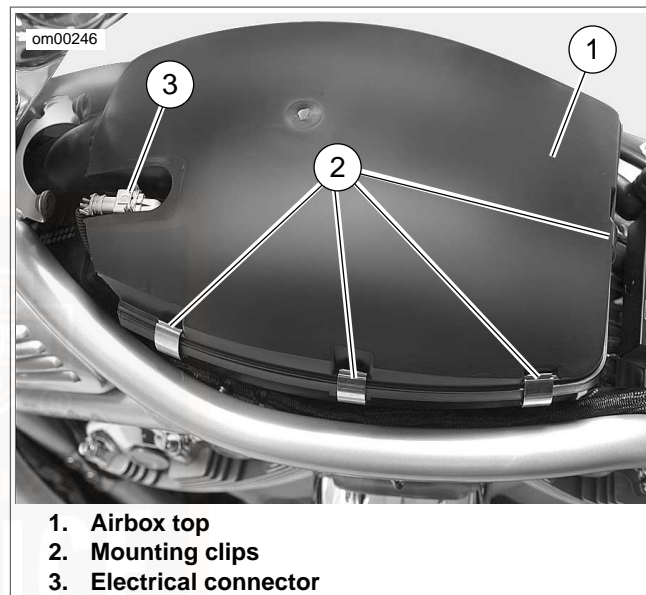

Figure 42. Airbox Top: VRSC Models
4. See Figure 42. Remove electrical connector (3) by pushing down on bail wire to unlock. The airbox top is retained by eight clips, three per side, one at the rear and one in the front under the snorkel. Release the clips and remove the airbox top.